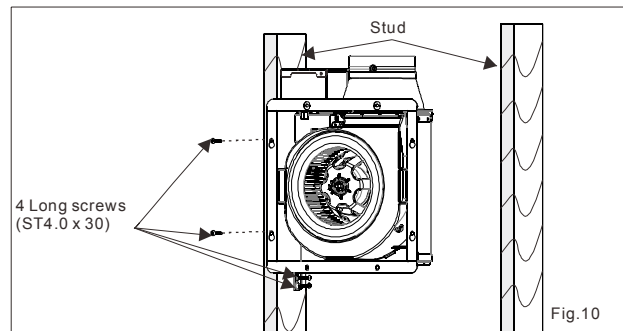

Fig.10
2. Fix the flange of frame to stud by 2 long screws (ST4.2x30), and fix the suspension bracket to stud by 2 long screws (ST4.2x30). (Fig.10)
-  The adaptor of product must be installed upward. (Fig.10)